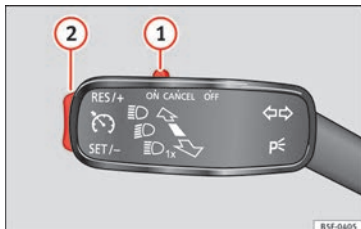

Fig. 187 Turn signal and main beam headlight lever: cruise control buttons.
- Move knob **1** » **Fig. 187** to the **ON** position.
- Press rocker switch **2** » **Fig. 187** » page 175 in **RES**.
- The set speed can be **reduced** by pressing switch **2** » **Fig. 187** » page 175 in **SET**.
Cruise control is **switched off temporarily** by pressing switch **1** » **Fig. 187** » page 175 in **CANCEL** or by pressing the brake or clutch pedal.
- Move knob **1** » **Fig. 187** » page 175 to OFF.